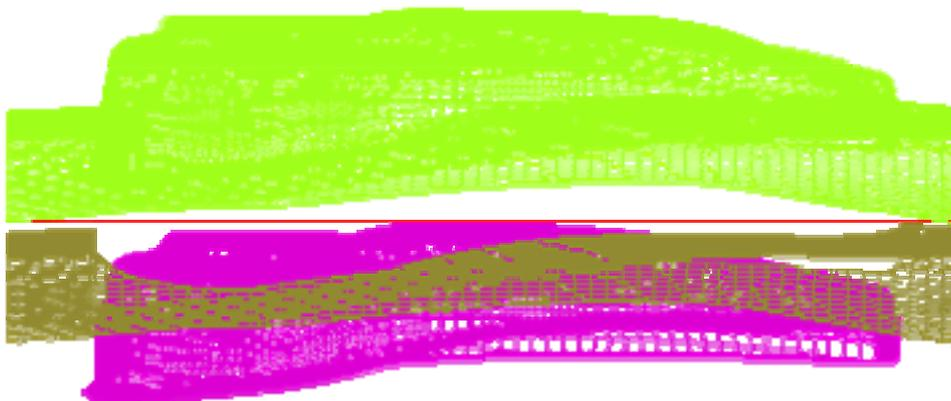

Figure 1.33 The relative position of tools and blank after positioning
6. Click  and  icon on the **Icon bar** to display the relative position of tools and blank(s), as shown in Figure 1.33.